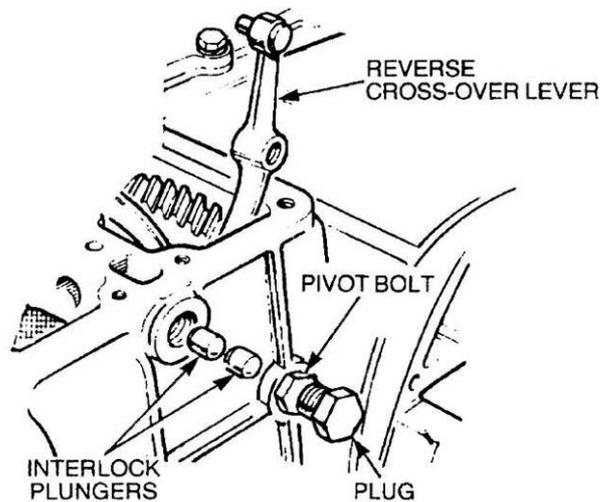

Figure 162 Removal of the Interlock Plungers and Reverse Cross-over Lever
- j. Remove the plug retaining the two interlock plungers in the cross drilling (Figure 162), and remove the plungers. Remove the lockwire and pivot bolt and lift out the reverse cross-over lever.